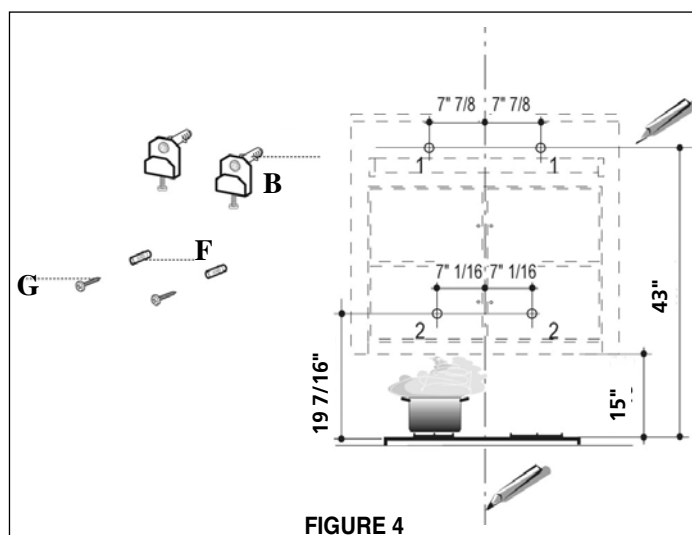

FIGURE 4
3. Draw a horizontal line at 43" above the cooktop (as indicated in **FIGURE 4**). Mark two points (1) (in **FIGURE 4**) on the horizontal line, 7 7/8" away from the center line on each side. Make sure both marks are level.
4. Mark two points (2) (in **FIGURE 4**) which are 19 7/16" above the cooktop, and are 7 1/16" on either side of the center line. Make sure both marks are level.
5. In holes (1) (in **FIGURE 4**) attach the two mounting brackets (B) to the wall with 2 mounting screws.
6. In holes (2) (in **FIGURE 4**) put one safety screw (G) in each hole, do not tighten the screws all the way.
5. Tighten the safety screws (Hole 2, in **FIGURE 4**)